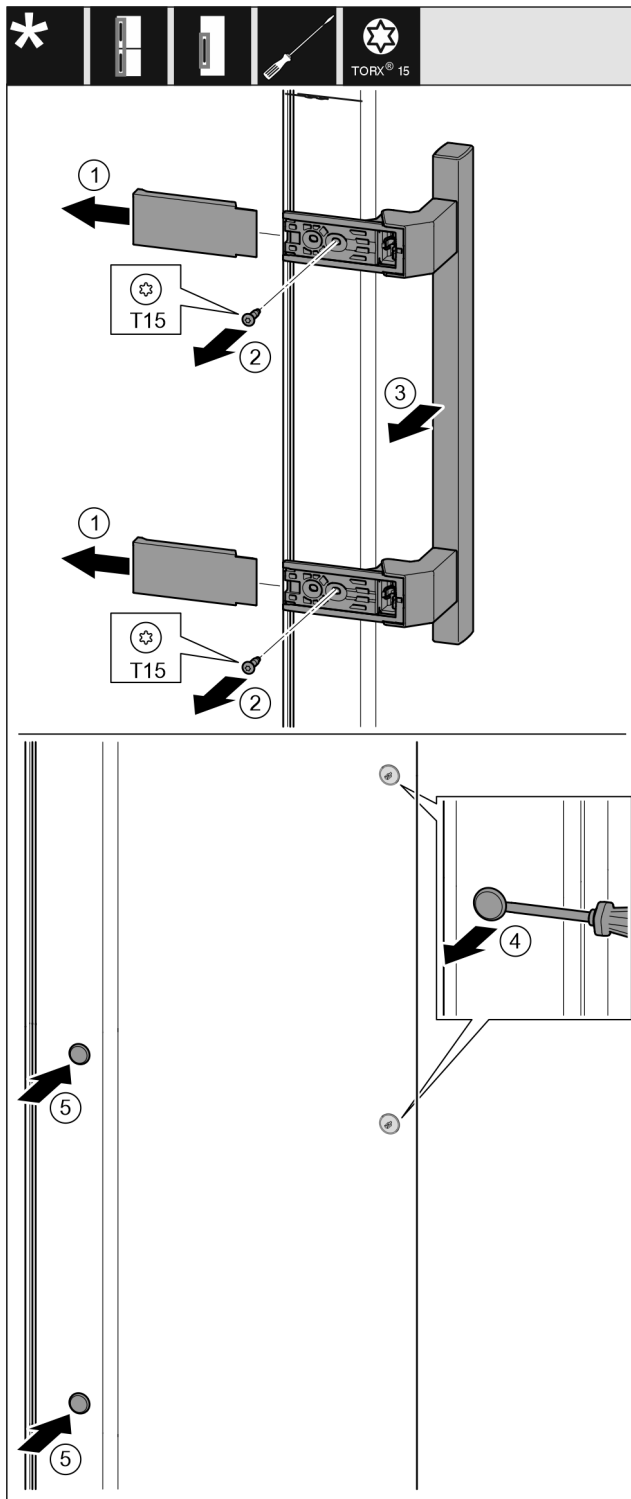

Fig. 16
- Pull off the cover. Fig. 16 (1)
- Remove the screws with the T15 screwdriver. Fig. 16 (2)
- Remove the handle. Fig. 16 (3)
- Carefully lift up the side plugs with a slotted screwdriver and pull them out. Fig. 16 (4)
- Insert the plugs again on the other side. Fig. 16 (5)